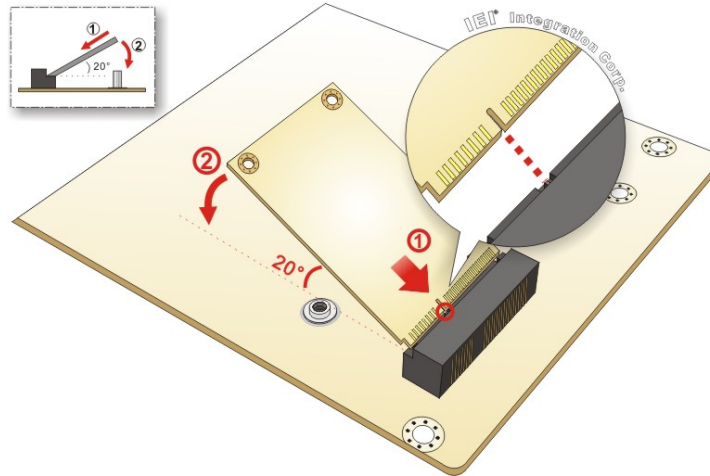

Figure 6-8: Inserting the Full-size PCIe Mini Card into the Slot
Step 3: Line up the notch on the PCIe Mini card with the notch on the connector. Slide the PCIe Mini card into the socket at an angle of about 20° (Figure 6-8).